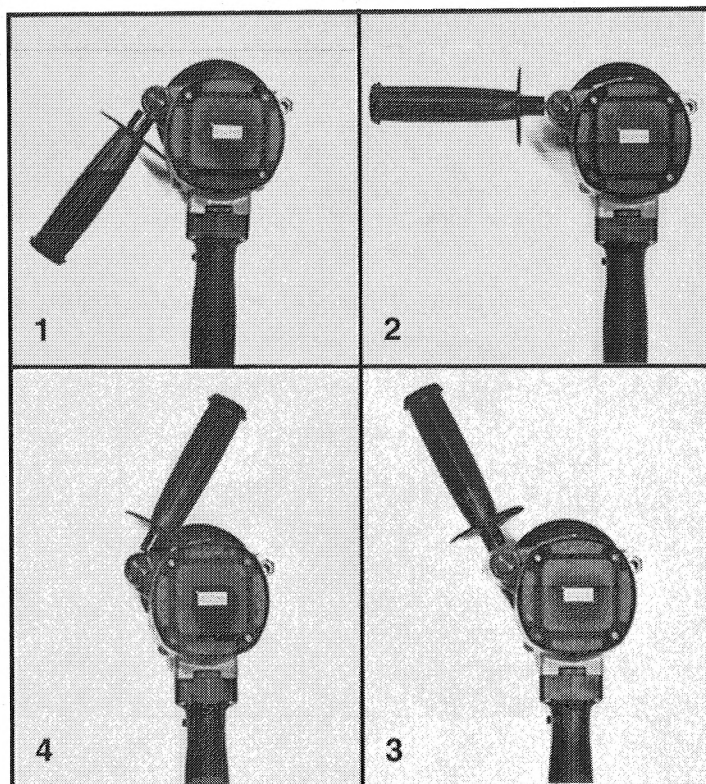

Fig. 3
6. Thread auxiliary handle into collar. The handle and collar may be tightened in any one of four positions (See Fig. 3). Move handle and collar to approximate desired position and tighten securely.